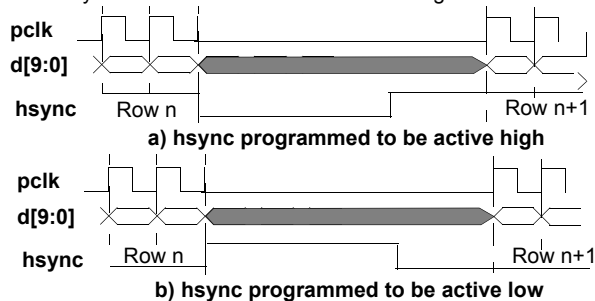

Figure 35. *hsync* in Pulse Mode
- Pulse mode should be used when the pixel clock, *pclk*, is programmed to operate in *data ready mode*. In pulse mode the *hsync* output pin will produce a pulse at the end of each row. The width of the pulse will be a minimum of four *pclk* cycles and its polarity can be programmed as shown in Figure 35. The *hsync* level is always synchronized to the active edge of *pclk*. The *hsync* pin is put into pulse mode by setting the *HsyncMode* bit of the *DVBUSCONFIG1* register to a logic 1. The active level of the *hsync* pulse is programmed using the *HsyncPol* bit of the *DVBUSCONFIG1* register.